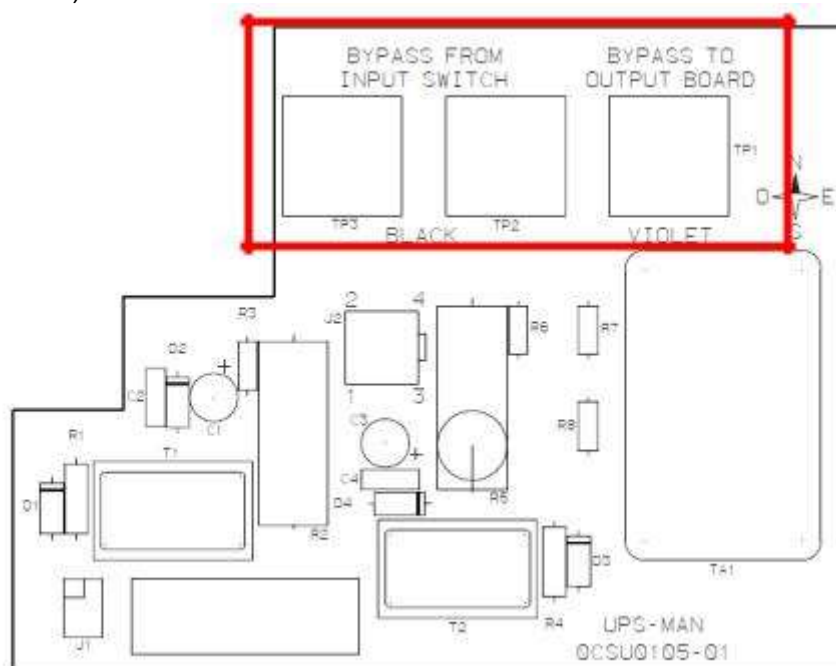

Fig. 17
- 3) Using a multimeter set to diode test mode, check that the semitop modules (B0052 or B0104, B0105) are OK. In the event that a diode or SCR is short circuited, replace B0052 or B0104, B0105. Refer to Fig. 15, Fig. 16 and Fig. 17.